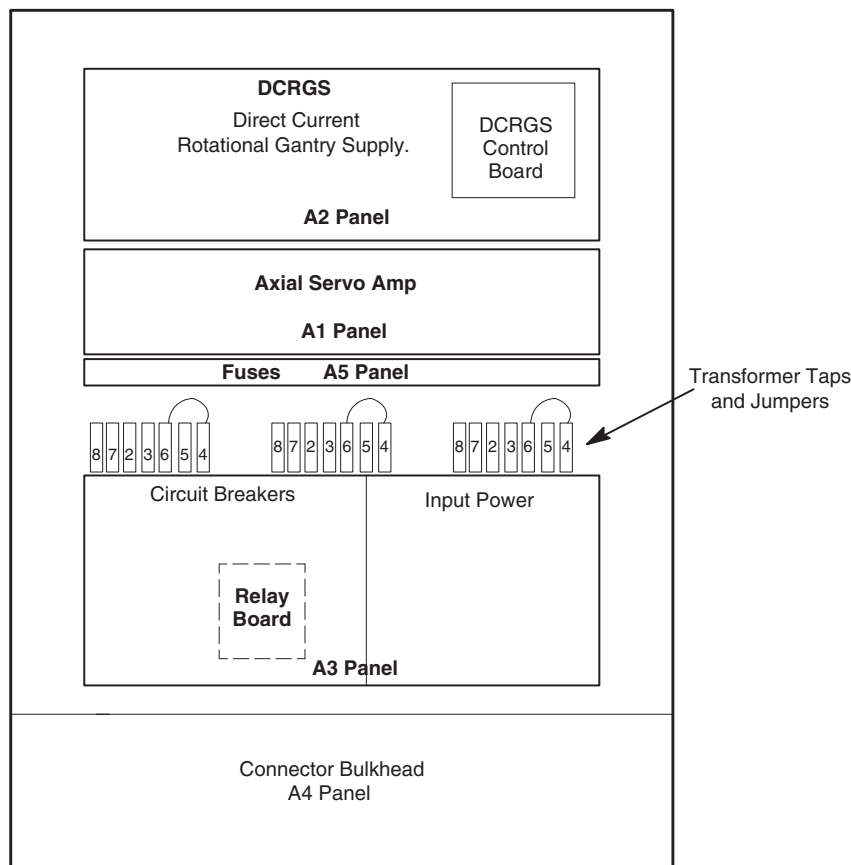

Figure 13-1 GPDU Area Designators
Figure 13-1 shows the GPDU (Global Power Distribution Unit) component area designators. This manual uses the component designators as abbreviations for the various components. For example, we refer to the Circuit Breaker Panel as the “A3” panel.
- 1.) Remove front cover from PDU A3 (circuit breaker) panel (Figure 13-1).
- 3.) **GPDU 2113764:** Refer to Table 13-3, and Figure 13-1.